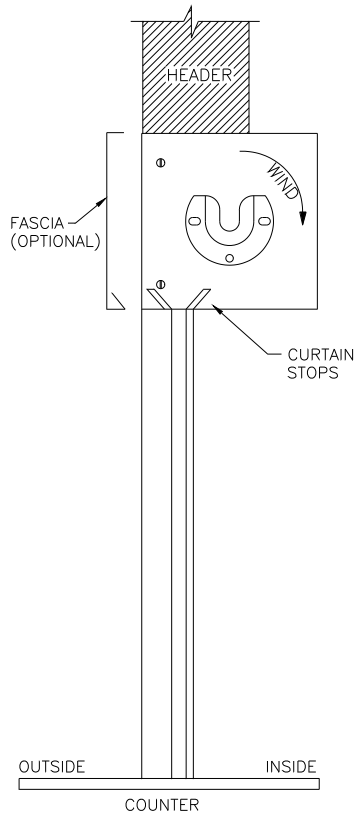

FIGURE 1
- STEP 5: Wind (see arrow Figure 1) with clicking device assembled as shown in Section AA (Sheet 2). See specification sheet for approximate clicks.